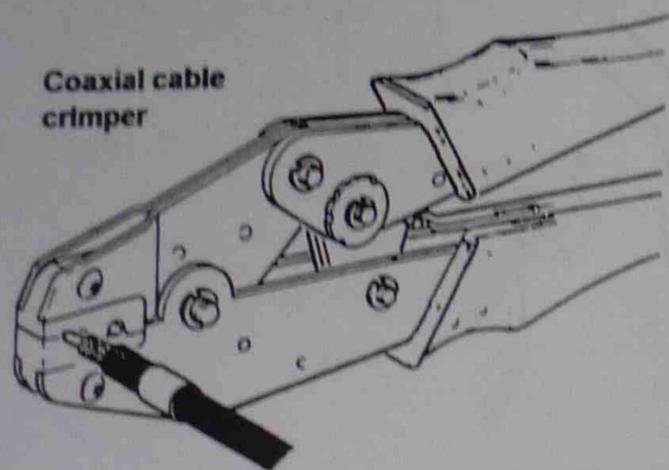

Figure 76 Crimping centre pin
- Crimp the contact in place using a suitable tool as shown in Figure 76.